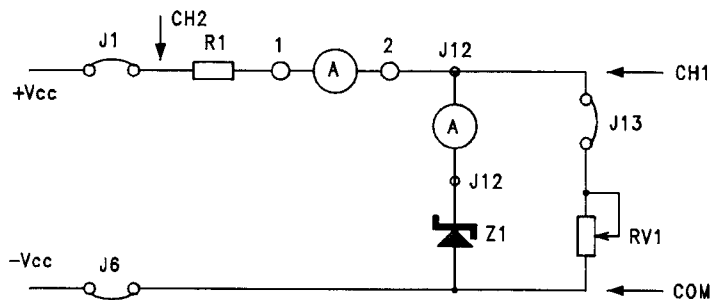

fig.B08.7
- Connect jumpers J1, J6, J13, an ammeter across J7 and one across J12, and the oscilloscope as shown in figure B08.7